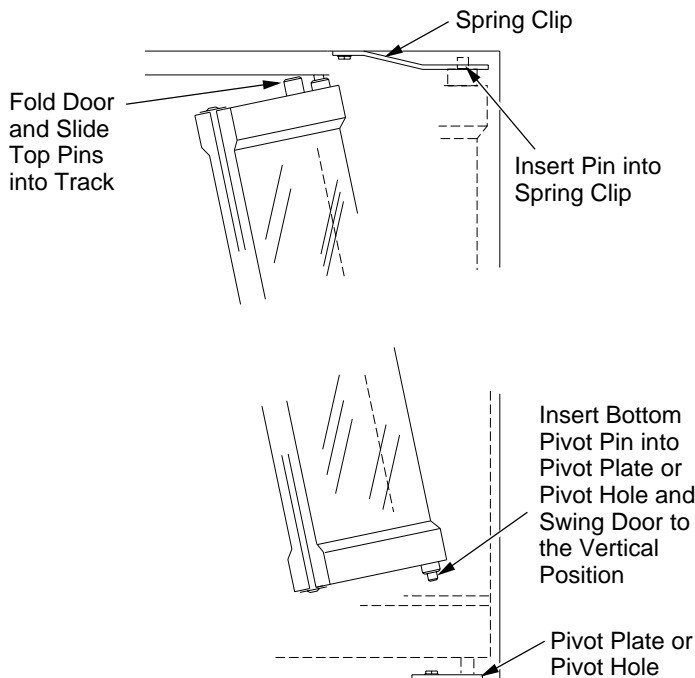

Figure 1 - Bi-Fold Door Installation
1. With bi-fold door completely folded, insert the bottom pivot pin into the pivot plate or pivot hole located near the bottom corner of the front face opening and swing door to the vertical position making sure top pins slide into door track. Door is installed when top door pin snaps into spring clip (see Figure 1).